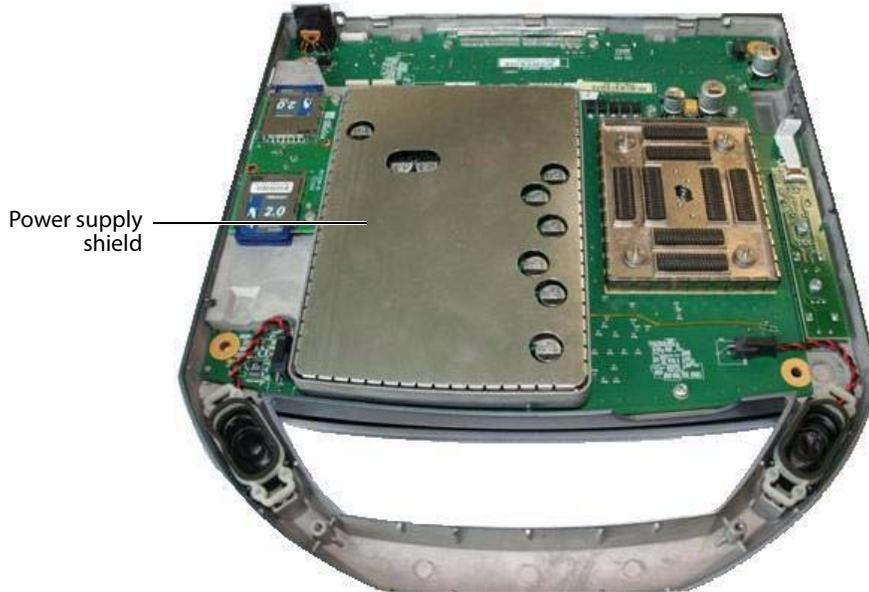

Figure 4.9 Power Supply Shield
- Power Supply Removal** 1 Gently pry the shield from the power supply and set it aside. This part will be used in reassembly. Note that the shield fits only one way. See Figure 4.9.